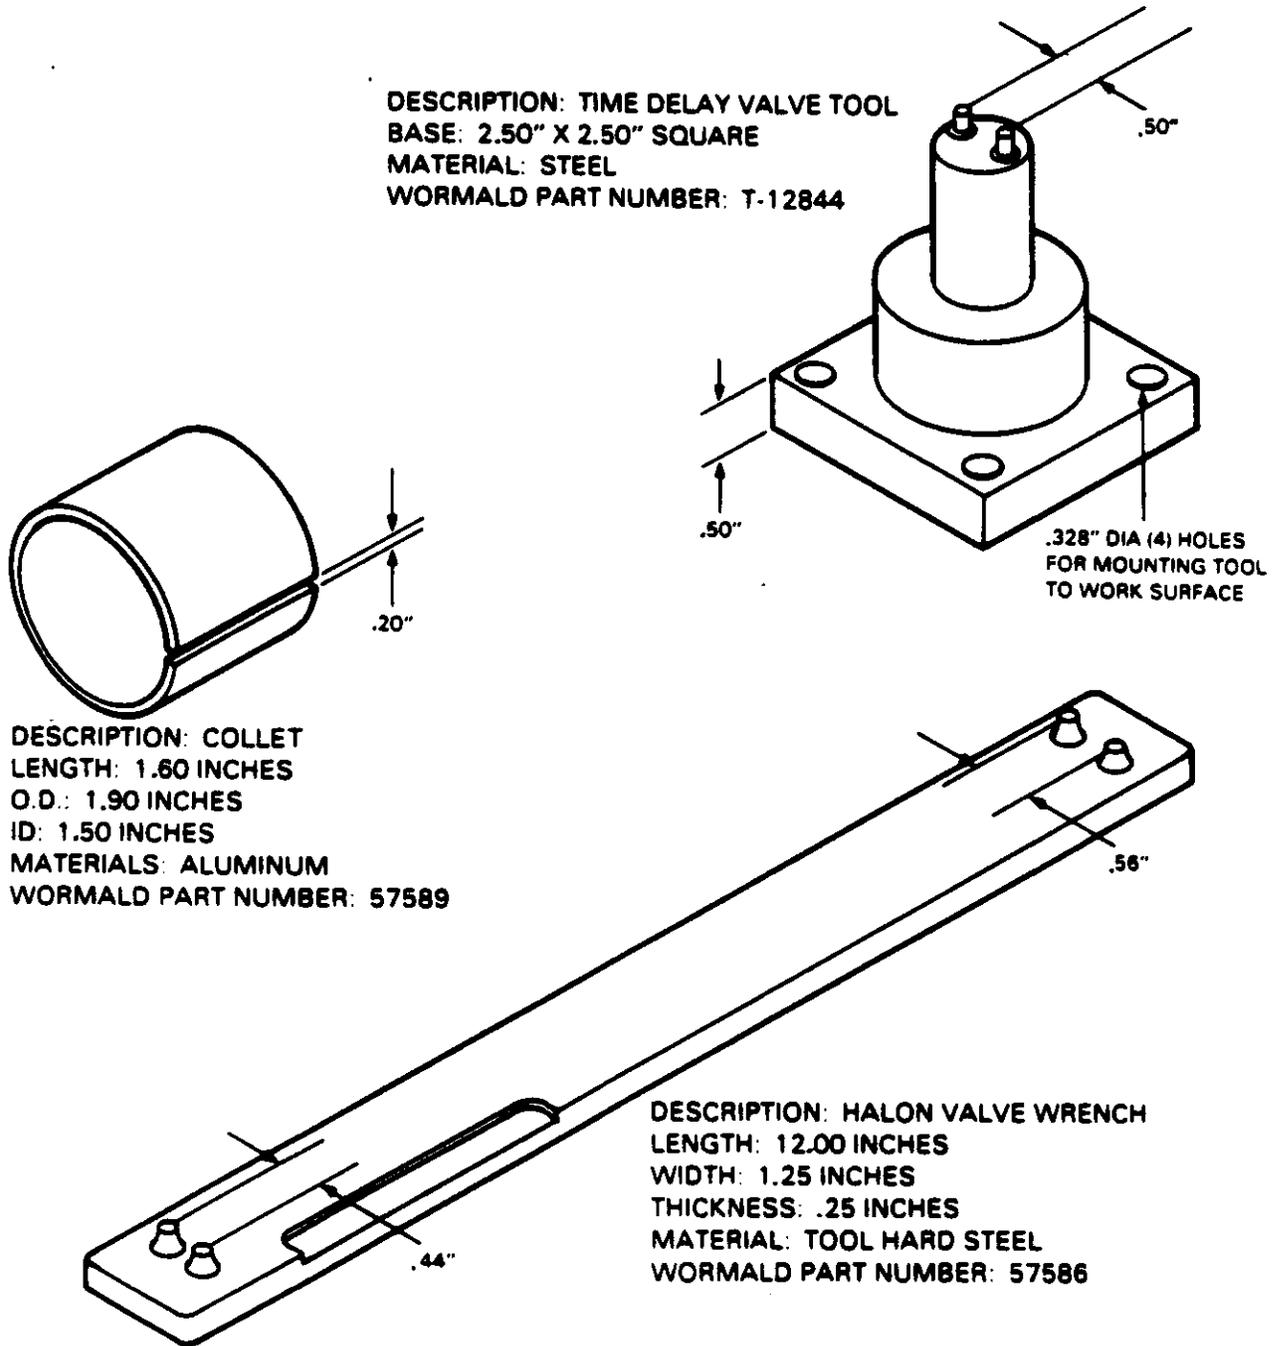

Figure 6-7. Special Tools
- a. Remove valve control head (1) from cartridge (2).
- b. Remove valve cap (3) and O-ring (4).
- c. Secure piston (9) with time delay valve tool (P/N T-12844). Disengage nut (5). Remove nut (5), threaded seal retainer (6), and seal (7) from top of valve body (12) as an assembly. Remove stem (8), piston (9), and Q-rings (10,11) from bottom of valve body (12). Refer to figure 6-7 for description of special tools.
a. If not already removed, remove cylinder shipping cap (1).
b. Remove valve actuator (2).
c. Remove valve assembly (3) and attached siphon tube (4).
d. Remove the following from the valve assembly (3):
(1) Siphon tube (4)
(2) Cap w/Schrader valve (5)
(3) Spring (10)
(4) Piston assembly (11)
(5) Pressure gage (6)
(6) Safety disk nut (7), burst disk (8), and washer (9)
e. Place piston assembly (11) in collet (P/N 57589) and secure in a vice. Using the Halon valve wrench (P/N 57586), remove check assembly composed of plug (15), ball (16), and housing (17). Refer to figure 6-7 for description of the special tools.